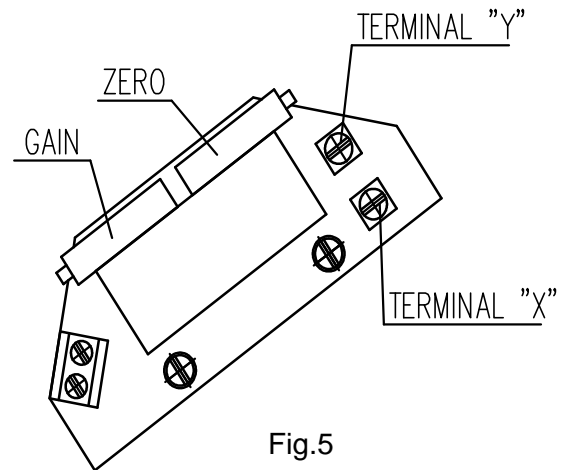

Fig.5
EPV – the 2-wire version (Fig. 5,5a)
- Adjust the resistive transmitter according to the previous chapter. The resistance is to be metered on the terminals X-Y, resp. R-R (Fig. 5,5a). The used transmitter resistance is 100 Ω.